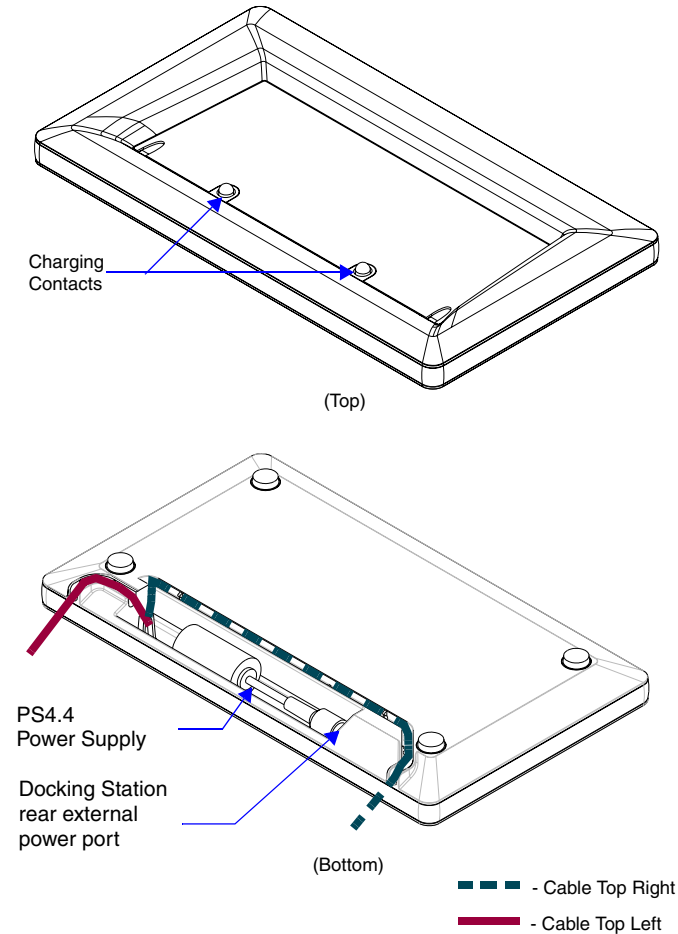

FIG. 3 Mio Attaché Docking Station (Top and Bottom view)
1. Connect the terminal end of the PS4.4 power supply to the rear external power port on the Mio Attaché Docking Station. The port on the docking station is located under the station on the back. See FIG. 3 for location.
4. Place the Mio Attaché into the docking station so the contacts at the front of the device are on top of the charging contacts at the front of the docking station (shown in FIG. 3). The kickstand can be in either position when charging on the base. The charging LED on the Attaché illuminates red to indicate it is charging and turns blue when it is done. The LED is off after completion of charge cycle. Full charge cycle for a depleted battery is approximately 3 hours.